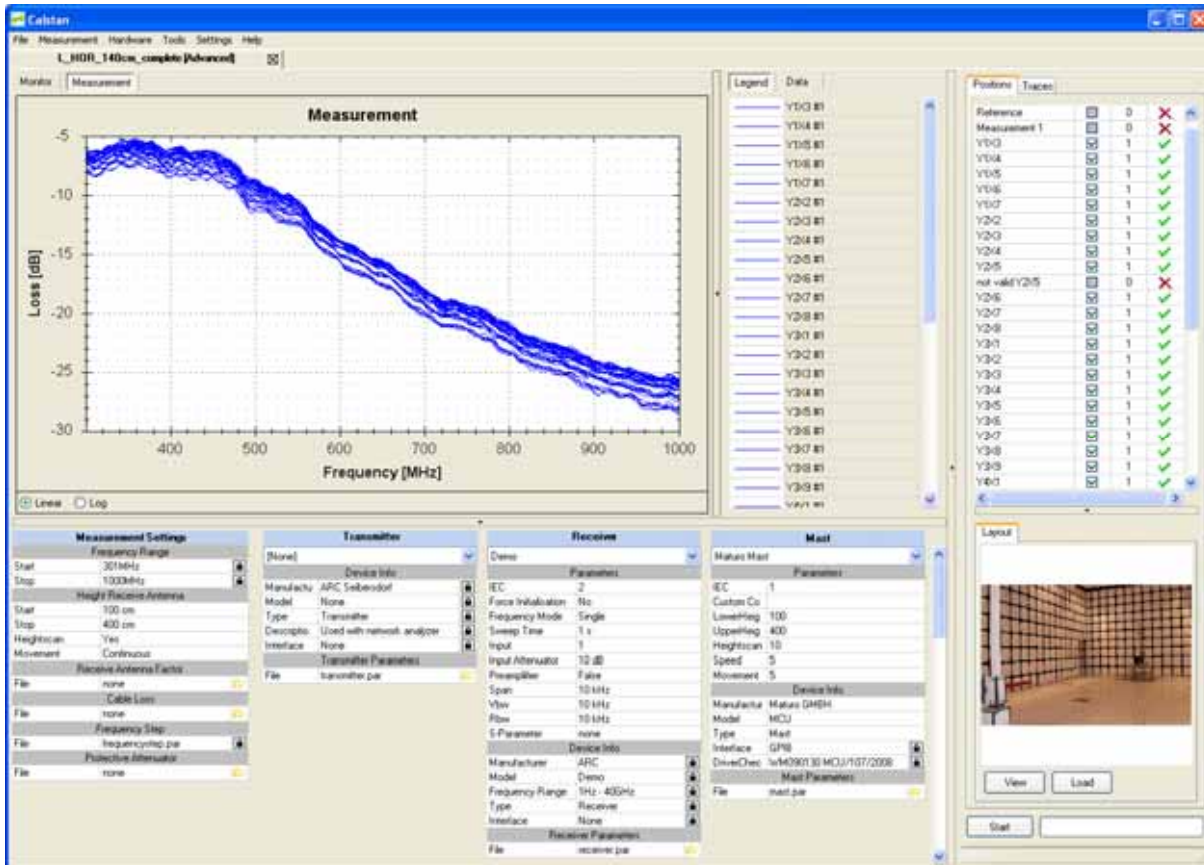

Figure 50: Experimental Measurement window.
Before starting the measurement following measurement parameters have to be defined in the "Measurement Settings" panel (**Figure 50**, lower left).
1. The **reference measurement** – this is represented by the “Reference” position at the top of the positions table (see **Figure 50**). This measurement serves as reference according to which the results are computed. Protective attenuator data are added to measured values if their unit is dB or dBm. Unit of the receiver device readout is discussed in 7.2.1